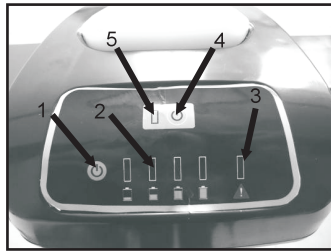

Fig.14
- If the operator wants the mower to run faster, press the cutting speed control button(4) and the green LED(5) will flash. The cutting speed and the working efficiency of the machine will increase; If the operator wants to cancel this function, just press the cutting speed control button(4) again until the LED(5) stops flashing.
- If the operator comes across tall, thick grass, press the cutting speed control button (4) to increase the speed of the blade efficiency. If the operator wants to cancel this function, just press the cutting speed control button (4) again until the LED (5) stops flashing- (Fig.14)